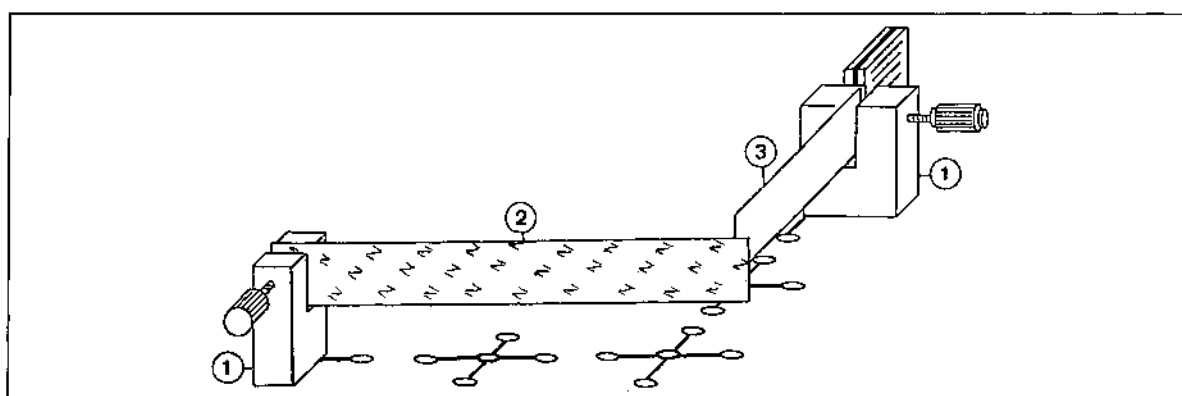

Fig. 2 Sideways view of the bimetal strip (2) shown in fig. 1; (1) plug-in holder (3) contact strip
1. Fit the bimetal strip as shown in fig. 2; the side with "N" printed on it should be facing forward while the board is horizontal (downwards when it is vertical). Fit the contact strip (3) in such a way that it does not touch the bimetal strip (2). You should leave a gap of ca. 3 mm between them.